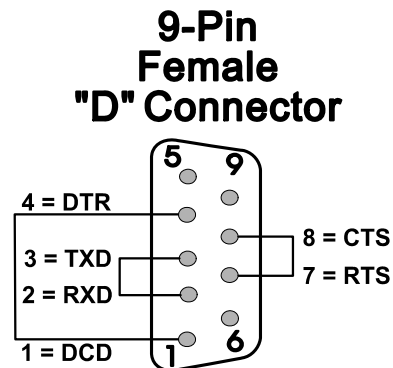

Figure 5-12. RS-232 Loop-back Plug
- RS-232 ports use a 9-pin female D-type loop-back plug (shown in *Figure 5-12*).